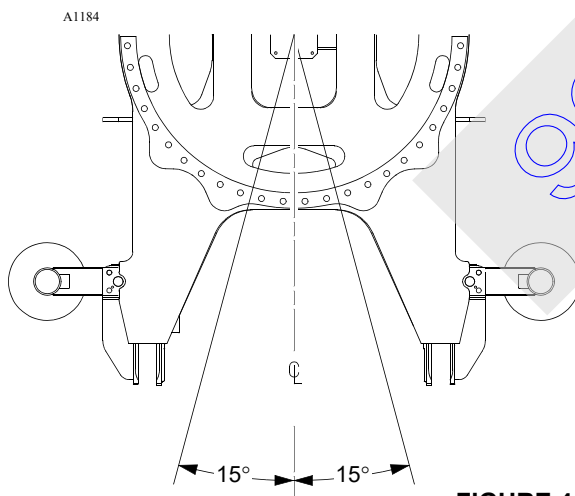

FIGURE 4-25
- Do not swing 15° either side of center (see Figure 4-25).